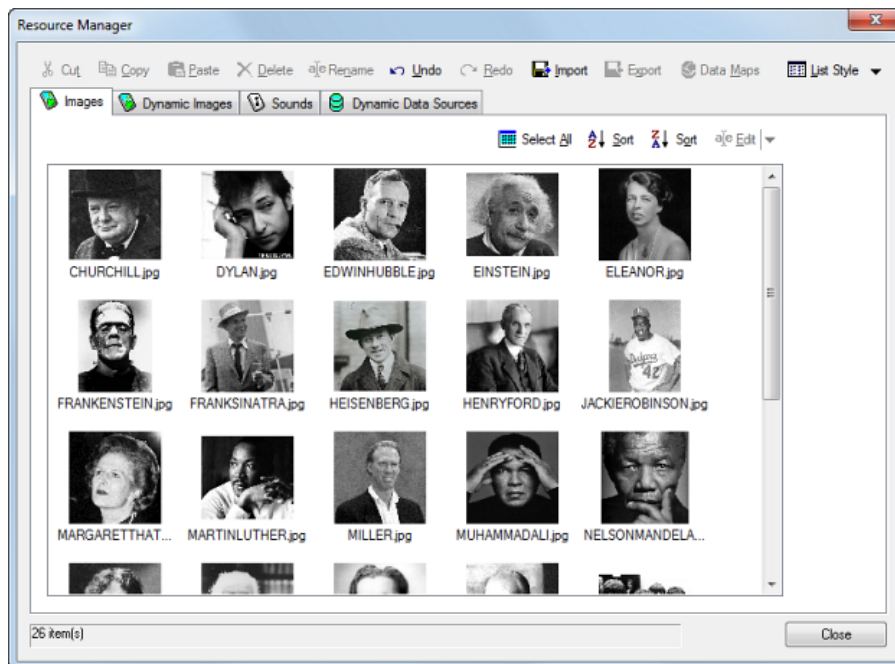

FIG. 170 Resource Manager Images tab - Conference Room images imported
3. Click **OK** to import the selected files and return to the Resource Manager (FIG. 170):